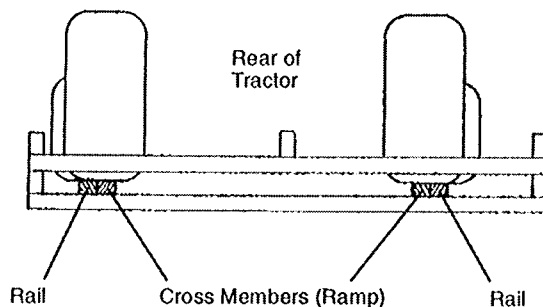

FIG. 4
PREPARE THE SKID (See Fig. 4)
- Cut front and rear tie down straps with a knife. Using a hammer, remove the two (2) cross members on top of the pallet, hitting outward, away from the tractor. Remove any exposed nails/staples from the rails. Use care, you will be using these boards as ramps.
- Place the two boards in the back of the pallet, making a ramp from the pallet to the floor. The boards should be placed inside the previous rails. (See Figure 4)